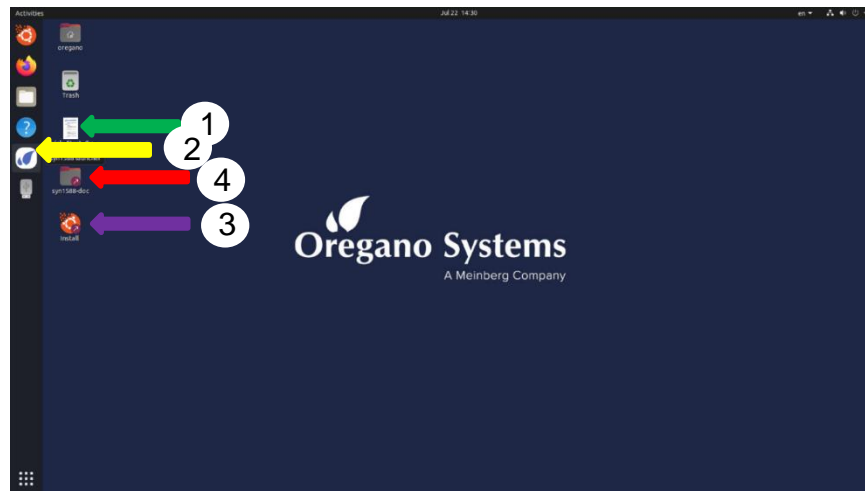

Figure 3: syn1588® Linux Live System Desktop
1. **Green Arrow Figure 3:** This document provides a good entry point for using the syn1588® Live System together with the syn1588® PCIe NIC and Dual NIC.
2. **Yellow Arrow Figure 3:** The syn1588 launcher can be used to start some of the syn1588® Software Suite applications for testing basic operation (e.g., testing PTP synchronization).
3. **Purple Arrow Figure 3:** Via this icon you can install the syn1588® Linux Live System on your PC. This installation will include the same functionality as the syn1588® Linux Live System itself (e.g., Linux driver installed for syn1588® PCIe NIC and Dual NIC)
4. **Red Arrow Figure 3:** Follow this link to access the extensive documentation. This will open a file browser for the directory `/opt/oregano/doc` which contains the syn1588® user guide and various application notes.